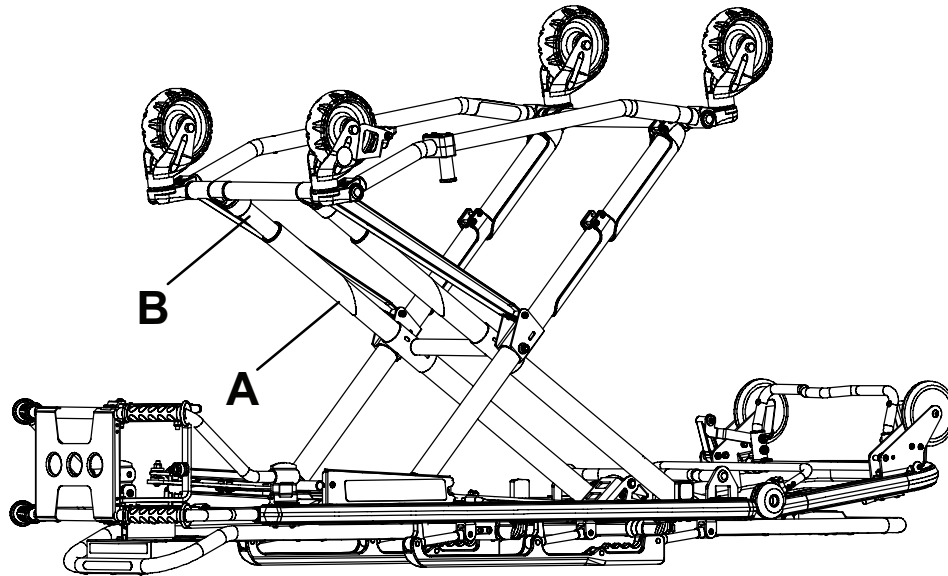

Figure 1 – Base lubrication locations
- Using the plastic applicator tube, spray **Tri-Flow™** with **Teflon®** lubricant (6082-199-012) in the gap between the upper (A) and lower lift tubes (B) on both foot end legs (Figure 1).